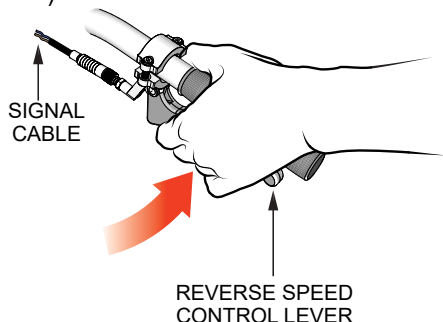

Figure 9. Reverse Control Lever Signal Cable
6. Squeeze the **reverse** control lever signal cable (Figure 9) and hold down.